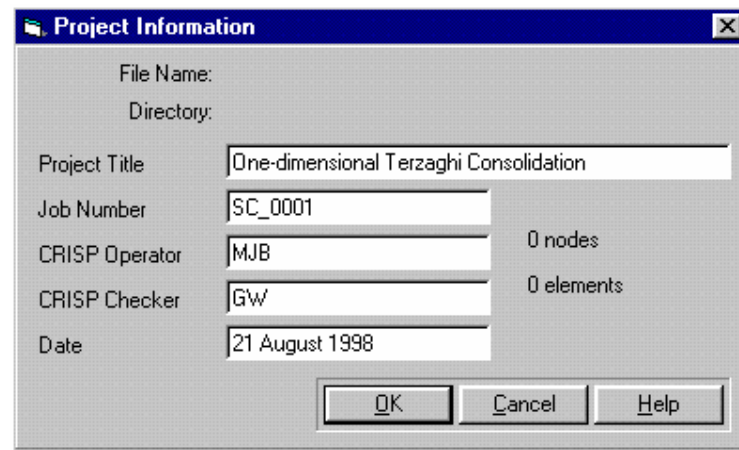

Figure 2-3: Project Information dialogue box
The Project Information dialogue box should now look similar to Figure 2-3. Click on **OK** to return to the Project Setup dialogue box once you have finished.
Step 4 The Material Properties dialogue box should now look similar to Figure 2-3. Click on OK to exit once you have finished.